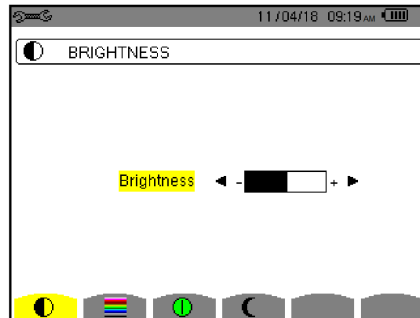

Figure 4-3
To open Display mode, select the  Display option in the Configuration screen and press \leftarrow . This opens the Brightness screen (Figure 4-3). The options at the bottom of the screen allow you to navigate to other display screens.
1. In the Brightness screen (Figure 4-3), press the  function button. This displays the Colors menu.